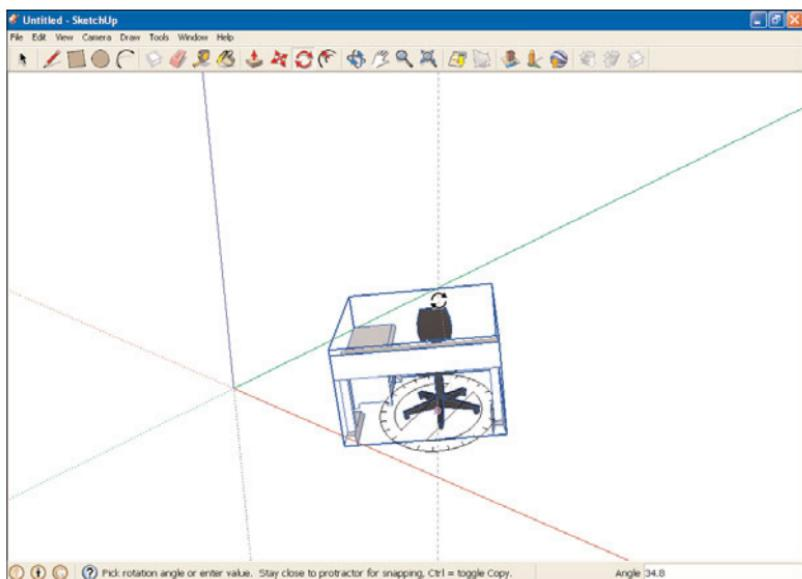

FIGURE 8.2 A rotation base and rotation axis.
12. Click the mouse to lock the rotation axis in place. You can see the rotation base and rotation axis we're using in Figure 8.2. Now you have the rotation base (the rotation axle hub) and the rotation axis (the rotation axle) in place. When you move the mouse, the desk rotates to match.